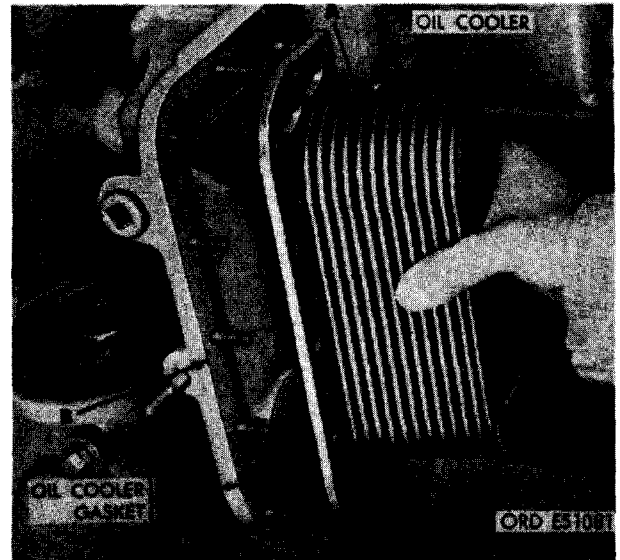

FIGURE 237. REMOVING OR INSTALLING OIL COOLER AND OIL COOLER GASKET.
- (3) Figure 237. (A) Remove oil cooler. (B) Remove and discard oil cooler gasket.